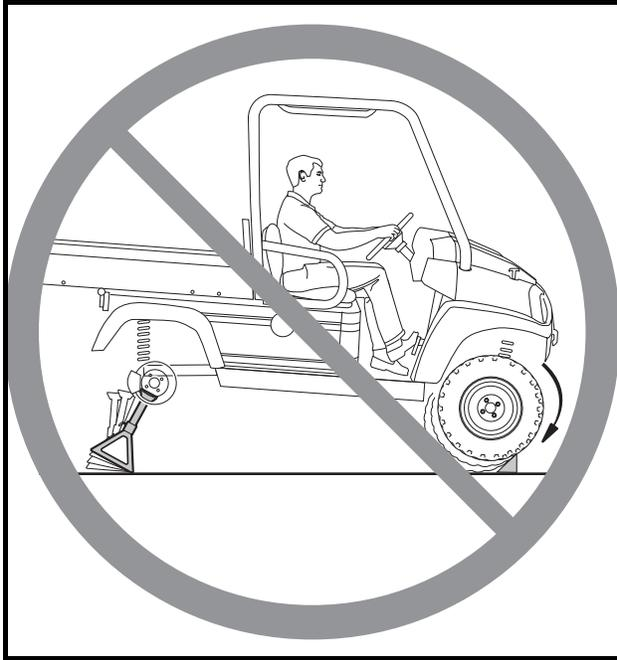

Figure 1-1 All-Wheel Drive Warning
- When servicing the vehicle with part of the vehicle on jack stands, do not operate the engine with the Forward/Reverse handle in either the FORWARD or REVERSE position. The all-wheel drive system will engage any wheel(s) with traction. See Figure 1-1, Page 1-3.